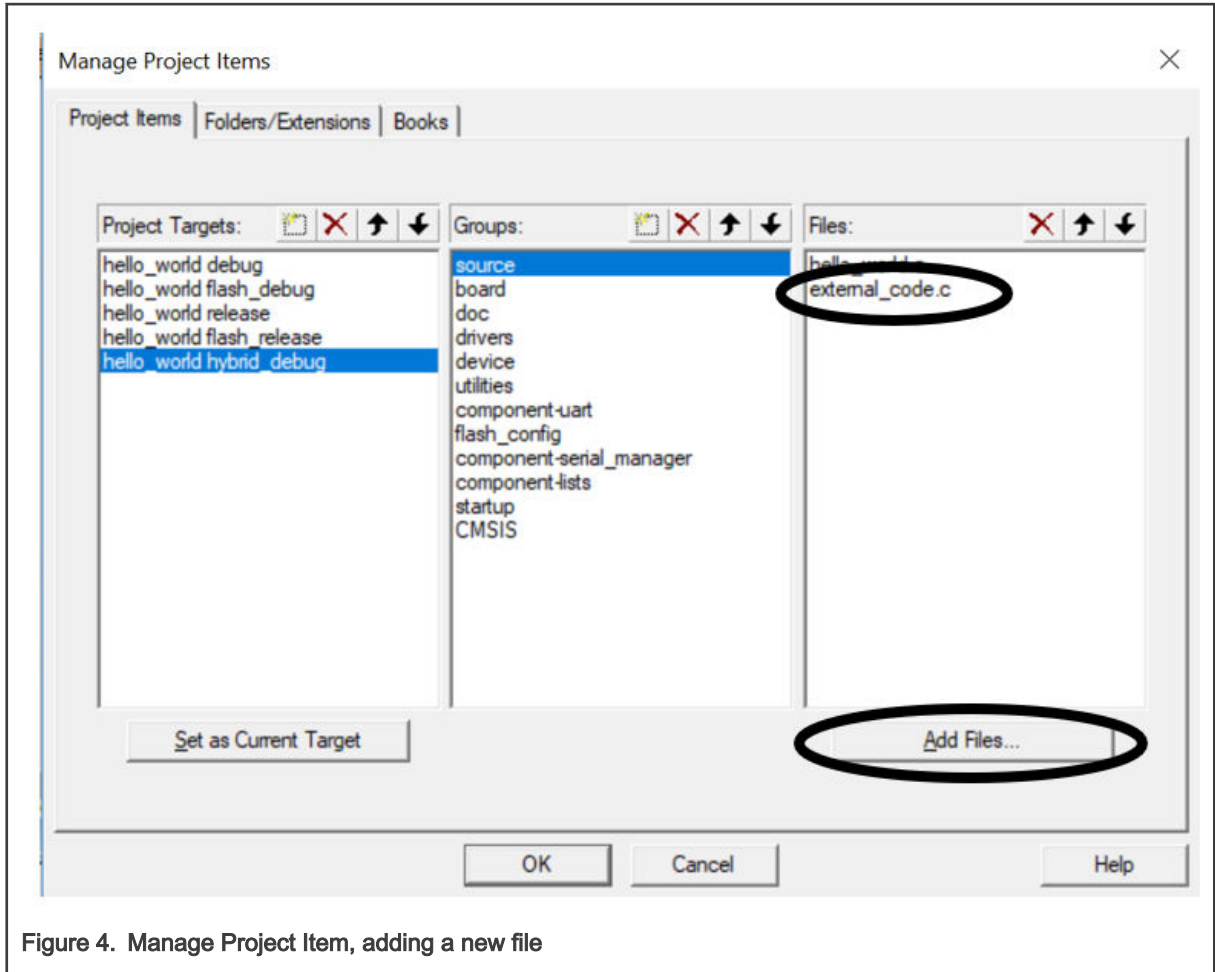

Figure 4. Manage Project Item, adding a new file
- c. Add a new C file, which will be later placed to the external flash memory for XIP to the current project. In this example, a very short function with a for loop inside another for loop followed by a print statement is used. This function is then called from the main function in the *hello_world.c* file. Let's call this C file *external_code.c*. Extract the *hello_world_hybrid_mdk.zip* file and copy the *external_code.c*, *hello_world.c*, and *external_code.h* files in the "hello_world_hybrid_mdk" into the *SDK_2.8.2_EVK-MIMXRT685\boards\evkmimxrt685\demo_apps\hello_world* folder. Now add the *external_code.c* file in the source group into the "hello_world_hybrid_debug" target, as shown in Figure 4.